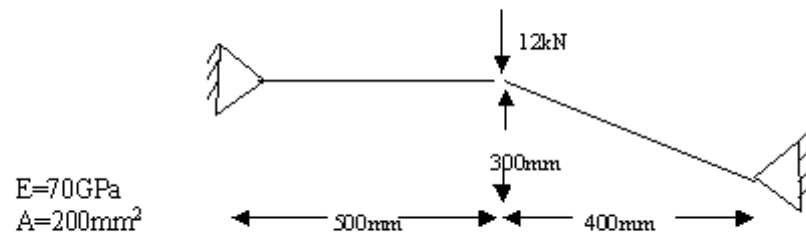

Figure 3
3. Determine the displacements at nodes and the stresses in elements shown in figure3: [16]